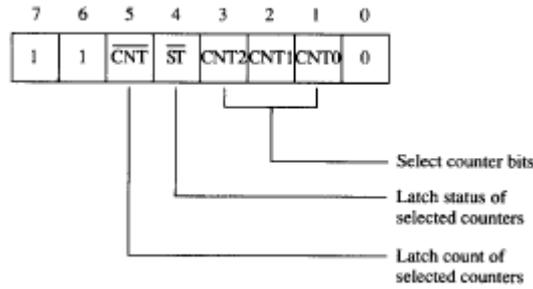

Figure 11-38: The 8254-2 read-back control word
- Read-back control word is used when it is necessary for the contents of more than one counter to be read at the same time (Figure 11-38).